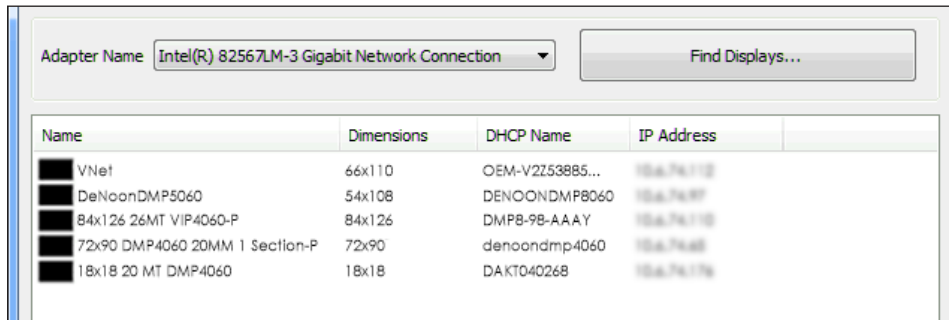

Figure 7: Detected Displays
- Click **Find Displays** to detect any devices using the selected network adapter. Detected devices are listed in the bottom window of the utility. Refer to **Figure 7**.